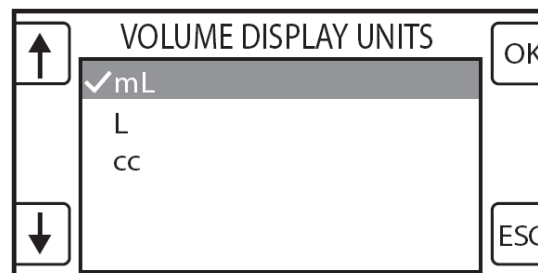

Figure 4: Sample System Setting Screen
6. From the system setting screen, push the buttons next to the arrow icons to highlight or adjust the appropriate setting option (see figure 4). See the *System Setting Options* in table 4.0 for available settings.